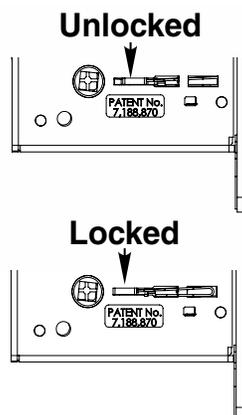

Figure 9
**MAKE SURE LOCK IS UNLOCKED. (FIGURE 9)**